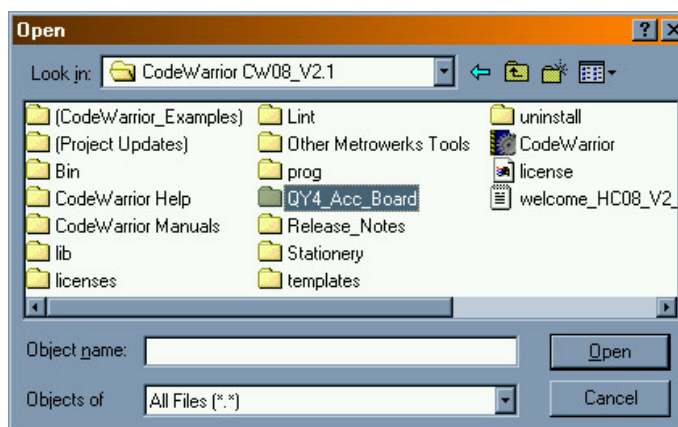

Figure 1-5. Find the Demo Project
3. Find and Select QY4_Acc_Board folder and click Open (see Figure 1-5).